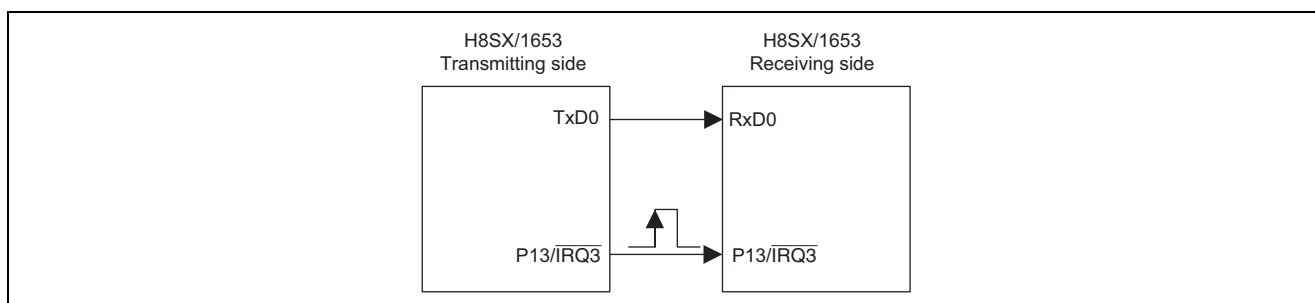

Figure 1 Asynchronous Serial Transmission
- An example of connection for this sample task is shown in figure 1.